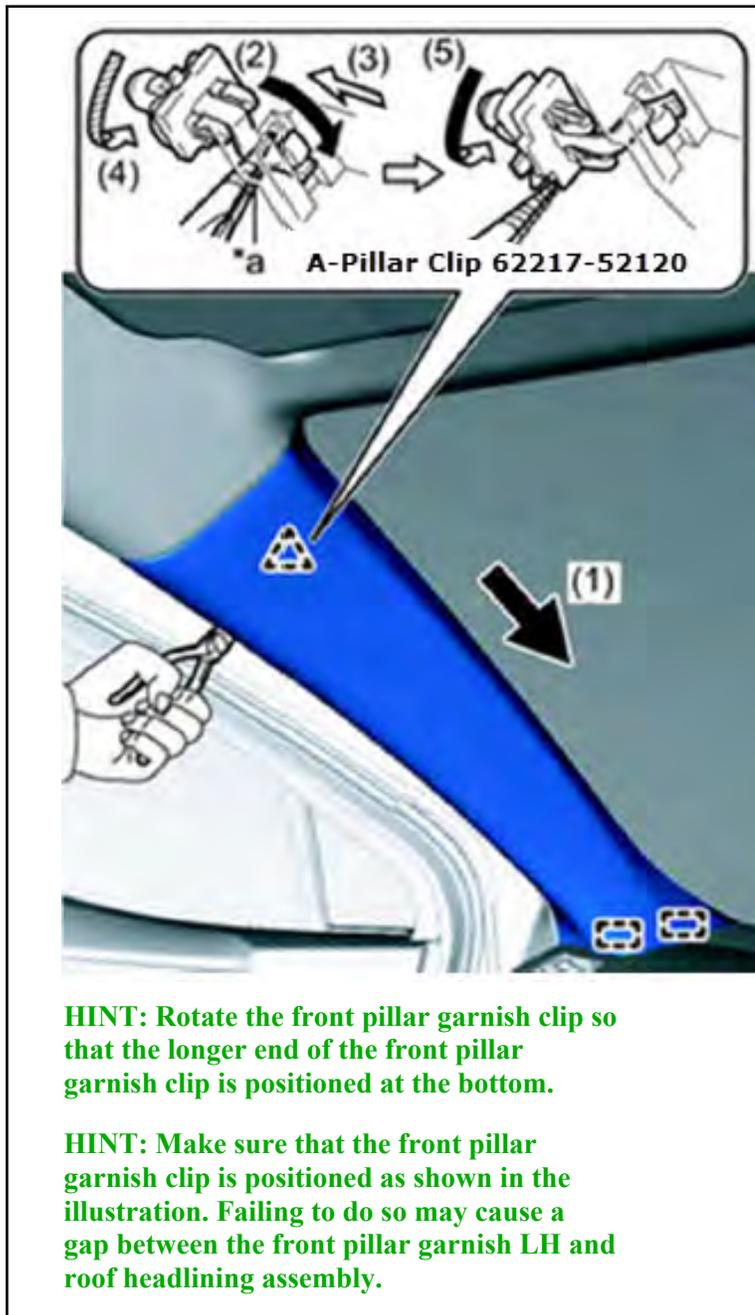

Figure 22
Push the front pillar garnish LH in the direction indicated by the arrow (1) shown in the illustration to engage the 2 guides. Using needle-nose pliers with the tips wrapped with protective tape, bend the end of the front pillar garnish clip in the direction indicated by the arrow (2) shown in the illustration. Push the front pillar garnish LH in the direction indicated by the arrow (3) shown in the illustration and insert it to the front pillar garnish clip. Using needle-nose pliers with the tips wrapped with protective tape, rotate the front pillar garnish clip in the direction indicated by the arrow (4) shown in the illustration. Using needle-nose pliers with the tips wrapped with protective tape, push the front pillar garnish clip in the direction indicated by the arrow (5) and rotate it to the position shown in the illustration. See figure 22.